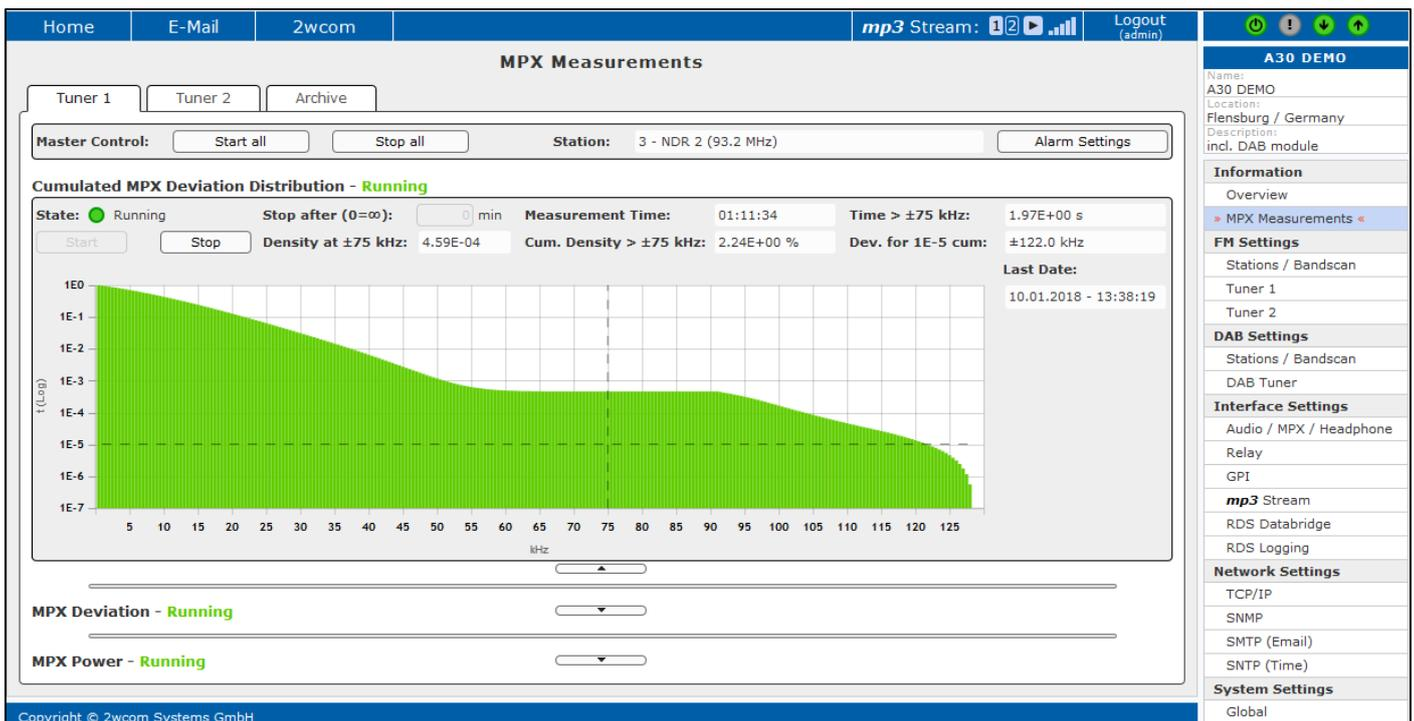
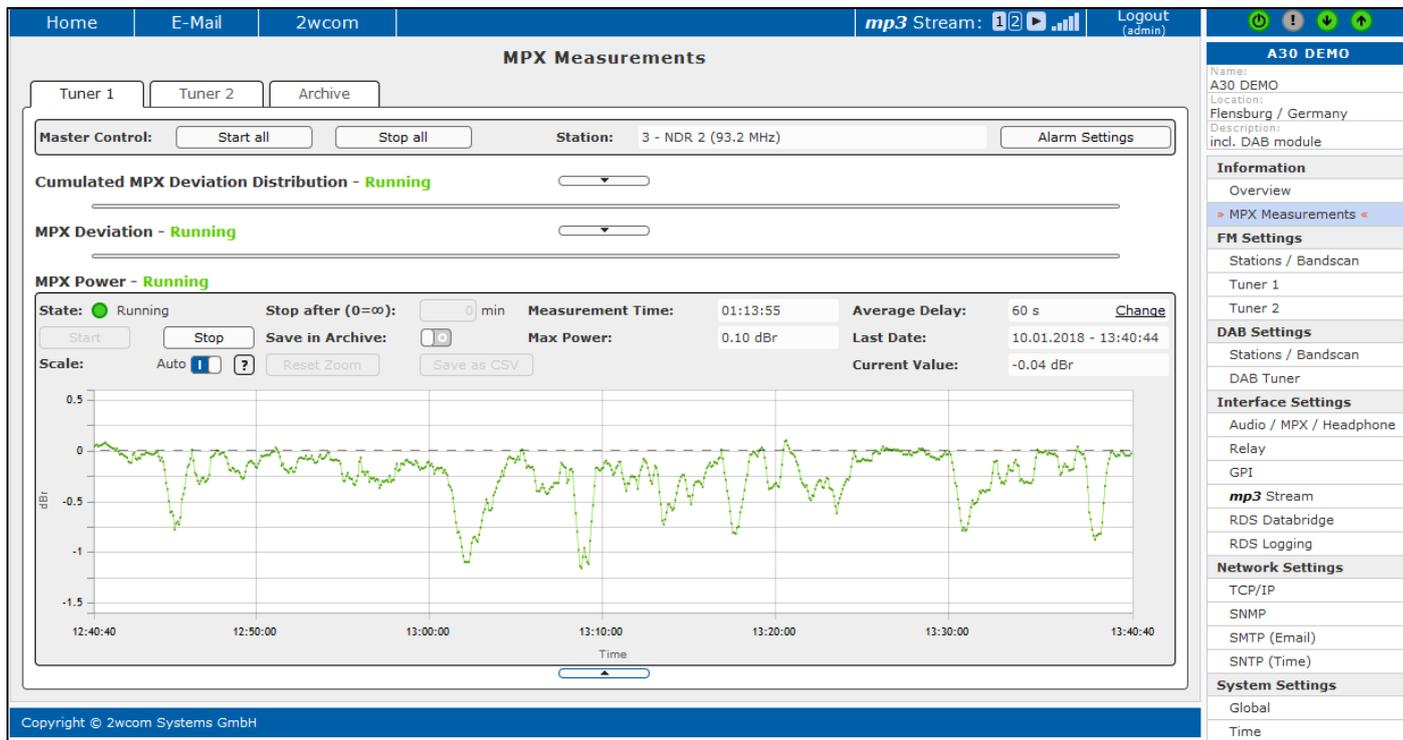

Fig. 48: Information – MPX Measurements. Cumulated MPX Deviation Distribution.
Fig. 50: MPX Measurements – MPX Power
2. To see the graphical presentation of MPX values, open the corresponding menu under **Information**→**MPX Measurements** (see Fig. 48-Fig. 50).
The graph in the Fig. 48 shows the distribution of the frequency of the MPX values over the defined time interval:
- To zoom the graph (see Fig. 50) for a shorter time interval after the measurement has been stopped, select the corresponding interval by left mouse click; to come back to the normal view, click the "RESET ZOOM" button.
The MPX power measurement uses exactly this variable measurement range of 60 s. Every second the device delivers a new measured value of the MPX power over the time interval of 60 seconds. The graph of this measurement is shown in Fig. 50. The separate measurements of the graph are the maximal values measured over 5 seconds.
7. To zoom the graph (see Fig. 50) for a shorter time interval after the measurement has been stopped, select the corresponding interval by left mouse click; to come back to the normal view, click the "RESET ZOOM" button.
12. In the "Average Delay" field you can directly change the configured value by clicking the "Change" link. The browser will forward you to the "Tuner 1" settings menu and the "Mpx Power Average Delay:" field will flash (see red frame in Fig. 50).